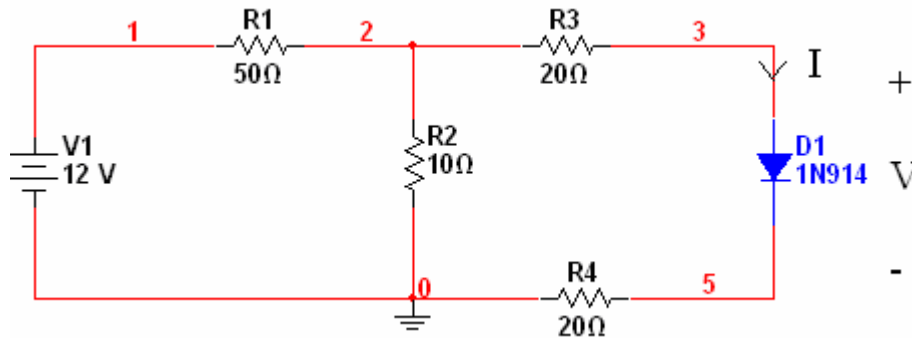
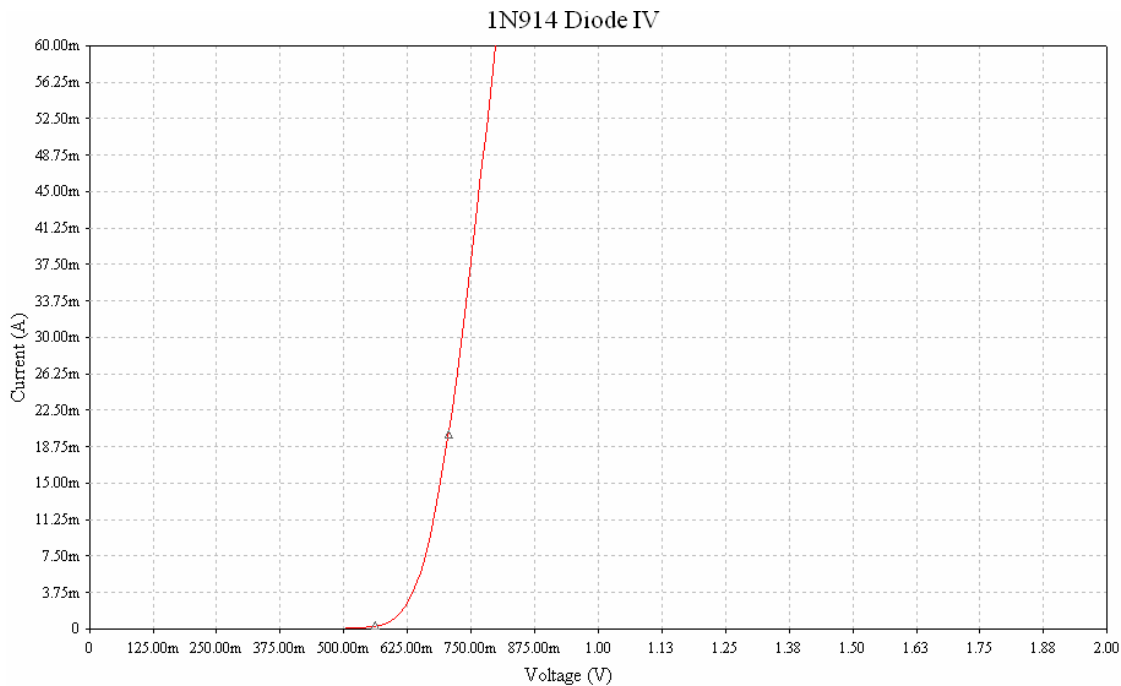

Figure 14. Simple circuit with one diode
Figure 15. 1N914 I-V characteristic
1. Determine the operating point of the diode in figure 14 below and compute the power output of the 12 V battery. The I-V graph of the 1N914 diode is given in figure 15.